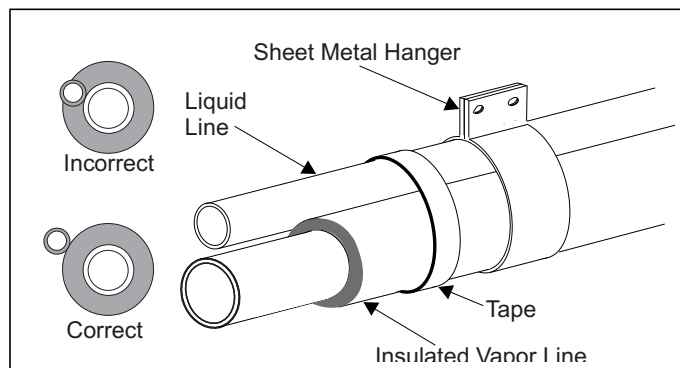

FIGURE 3: Insulation of Vapor Line
4. Tape and suspend the refrigerant lines as shown. DO NOT allow tube metal-to-metal contact. See Figure 3.